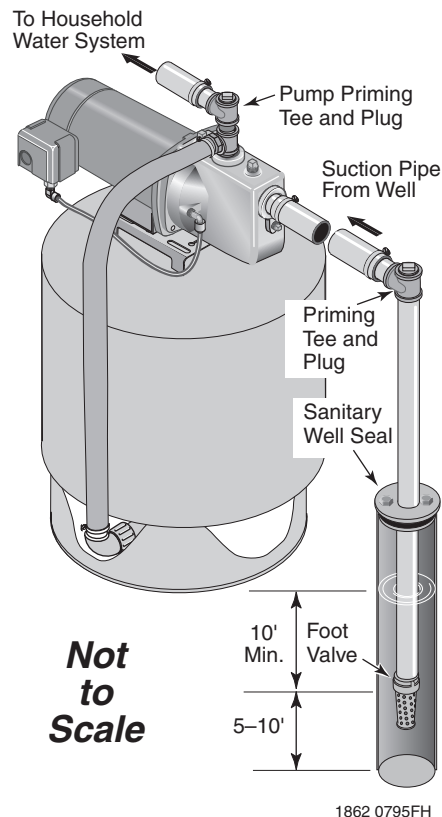

Figure 2: Cased Well Installation
CASED WELL INSTALLATION, 2" OR LARGER CASING (FIGURE 2)
- Step 2. Assemble the foot valve, strainer, and well pipe (see Figure 2). Make sure that the foot valve works freely.
Step 4. Install a priming tee, priming plug, and suction pipe to the pump (see Figure 2). Connect the pipe from the well to the pump suction port, using the fewest possible fittings – especially elbows – as fittings increase friction in the pipe (however, include a foot valve – see Figure 2). The suction pipe should be at least as large as the suction port on the pump. Use PTFE pipe thread sealant tape on threaded pipe joints. Support the pipe so that there are no dips or sags in the pipe, so it doesn't strain the pump body, and so that it slopes slightly upward from the well to the pump (high spots can cause air pockets which can air lock the pump). Seal the suction pipe joints with PTFE pipe thread sealant tape. Joints must be air- and water-tight. *If the suction pipe can suck air, the pump cannot pull water from the well.*